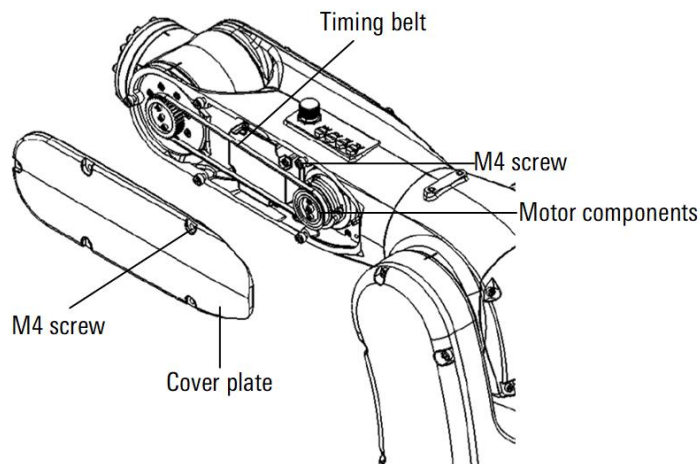

Figure 10-6 Diagram of J5 axis synchronous belt replacement
Step4.Remove the manipulator cover and screws, as shown in Figure 10-6.